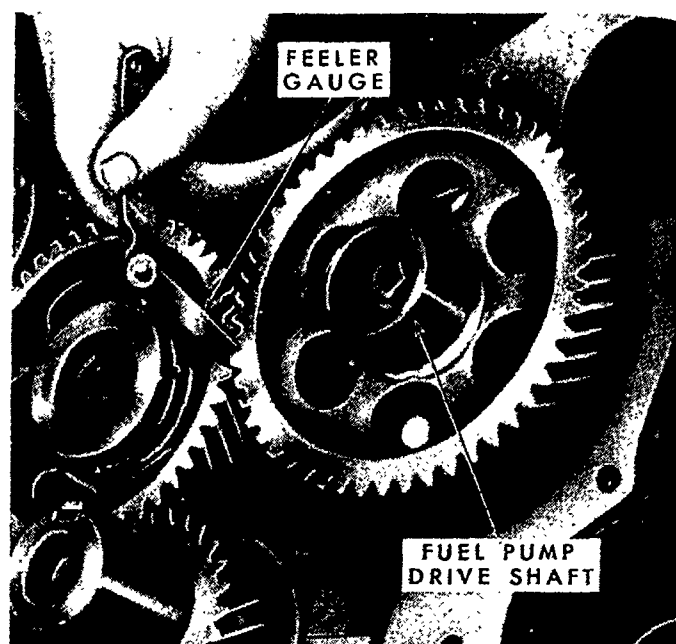

Figure 28
2. Check the backlash of the gears with a dial indicator or a feeler gauge, as shown in Figure 28.
NOTE: On gasoline engines, an eccentric, Figure 28, is attached to the front of the camshaft gear. Removal and installation is the same as on diesel engines. At the time of removal of the gear, the shaft should be inspected and a new one installed if any abnormal wear pattern, cracks or grooves are found.